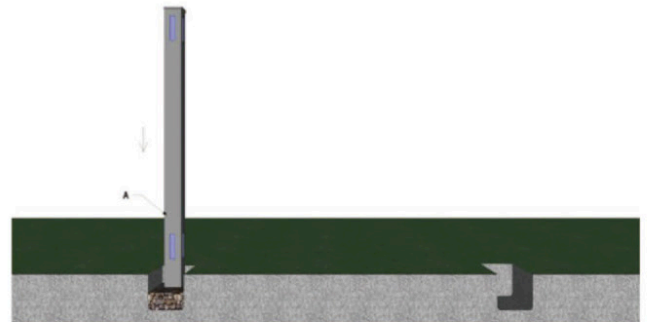

Fig 3.
4. Set Post (A) into the hole, be sure it is square and in-line with your string layout. (See Fig 3.)